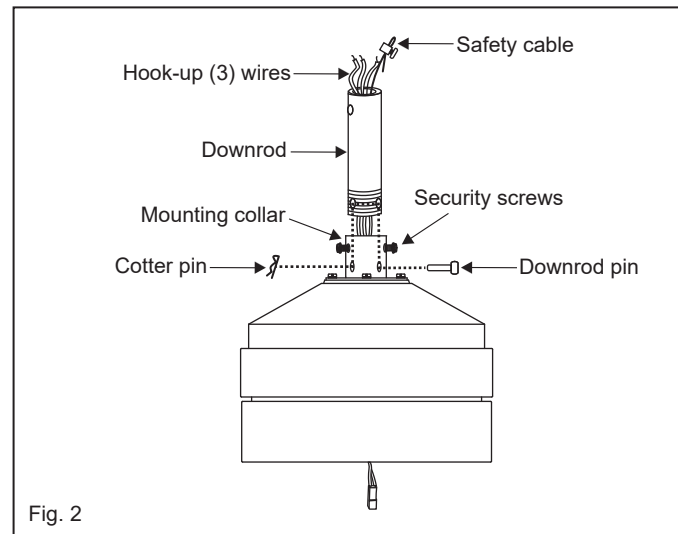

Fig. 2
- 3 Loosen the two security set screws and remove the downrod pin and retaining clip from the coupler on top of the motor assembly. (Fig. 2)
2. Make wire connections from the fan to the receiver unit. For this step use the bundle of 5 wires on the receiver. (Fig. 2)